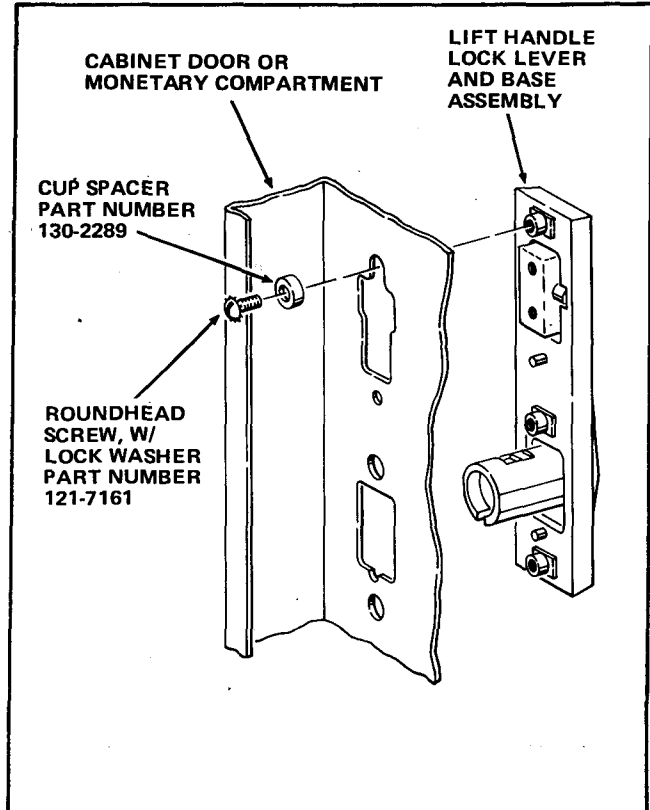

FIGURE 5
2. Install the assembly created in step B-1 on the Cabinet Door or Monetary Compartment and attach it with one of the Cup Spacers, part number 130-2289, and Screws/Lockwasher, part number 121-7161 included in the Kit. See Figure 5.